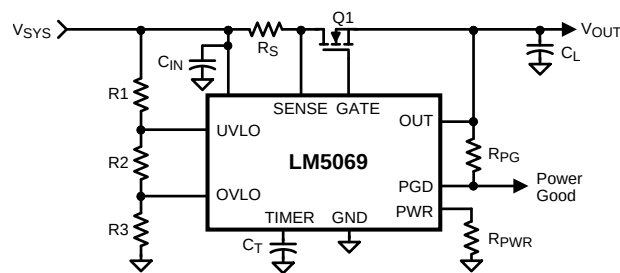
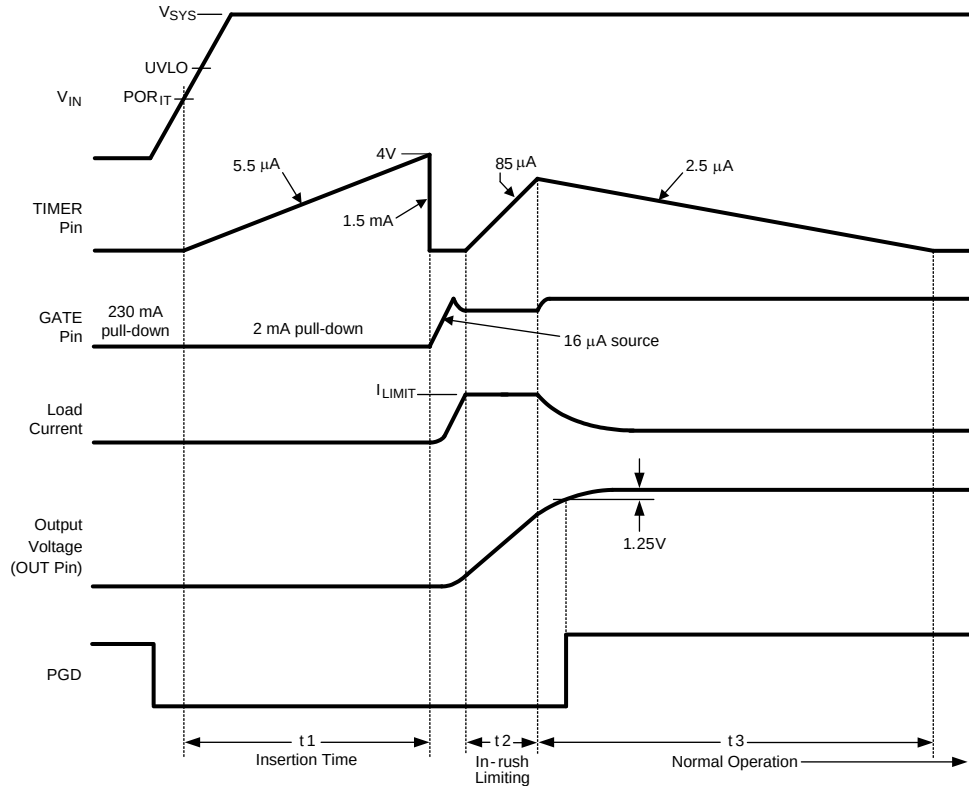

Figure 22. Basic Application Circuit
Figure 24. Power Up Sequence (Current Limit only)
The VIN operating range of the LM5069 is +9V to +80V, with a transient capability to +100V. Referring to the Block Diagram and Figure 22 and Figure 24, as the voltage at VIN initially increases, the external N-channel MOSFET (Q1) is held off by an internal 230 mA pull-down current at the GATE pin. The strong pull-down current at the GATE pin prevents an inadvertent turn-on as the MOSFET's gate-to-drain (Miller) capacitance is charged. Additionally, the TIMER pin is initially held at ground. When the VIN voltage reaches the POR_{IT} threshold (7.6V) the insertion time begins. During the insertion time, the capacitor at the TIMER pin (C_T) is charged by a 5.5 μA current source, and Q1 is held off by a 2 mA pull-down current at the GATE pin regardless of the VIN voltage. The insertion time delay allows ringing and transients at VIN to settle before Q1 can be enabled. The insertion time ends when the TIMER pin voltage reaches 4.0V. C_T is then quickly discharged by an internal 1.5 mA pull-down current. After the insertion time, the LM5069 control circuitry is enabled when VIN reaches the POR_{EN} threshold (8.4V). The GATE pin then switches on Q1 when V_{SYS} exceeds the UVLO threshold (UVLO pin $>2.5V$). If V_{SYS} is above the UVLO threshold at the end of the insertion time, Q1 switches on at that time. The GATE pin charge pump sources 16 μA to charge Q1's gate capacitance. The maximum gate-to-source voltage of Q1 is limited by an internal 12V zener diode.
As the voltage at the OUT pin increases, the LM5069 monitors the drain current and power dissipation of MOSFET Q1. In-rush current limiting and/or power limiting circuits actively control the current delivered to the load. During the in-rush limiting interval (t_2 in Figure 24) an internal 85 μA fault timer current source charges C_T . If Q1's power dissipation and the input current reduce below their respective limiting thresholds before the TIMER pin reaches 4.0V the 85 μA current source is switched off, and C_T is discharged by the internal 2.5 μA current sink (t_3 in Figure 24). The in-rush limiting interval is complete when the voltage at the OUT pin increases to within 1.25V of the input voltage (V_{SYS}), and the PGD pin switches high.
A charge pump provides internal bias voltage above the output voltage (OUT pin) to enhance the N-Channel MOSFET's gate. The gate-to-source voltage is limited by an internal 12V zener diode. During normal operating conditions (t_3 in Figure 24) the gate of Q1 is held charged by an internal 16 μA current source to approximately 12V above OUT. If the maximum V_{GS} rating of Q1 is less than 12V, a lower voltage external zener diode must be added between the GATE and OUT pins. The external zener diode must have a forward current rating of at least 250 mA.
During the insertion time (t_1 in Figure 24) the GATE pin is held low by a 2 mA pull-down current. This maintains Q1 in the off-state until the end of t_1 , regardless of the voltage at V_{IN} or $UVLO$.
Following the insertion time, during t_2 in Figure 24, the gate voltage of Q1 is modulated to keep the current or power dissipation level from exceeding the programmed levels. While in the current or power limiting mode the TIMER pin capacitor is charging. If the current and power limiting cease before the TIMER pin reaches 4V the TIMER pin capacitor then discharges, and the circuit enters normal operation.
The series pass MOSFET (Q1) is enabled when the input supply voltage (V_{SYS}) is within the operating range defined by the programmable under-voltage lockout (UVLO) and over-voltage lock-out (OVLO) levels. Typically the UVLO level at V_{SYS} is set with a resistor divider (R1-R3) as shown in Figure 22. When V_{SYS} is below the UVLO level, the internal 21 μA current source at UVLO is enabled, the current source at OVLO is off, and Q1 is held off by the 2 mA pull-down current at the GATE pin. As V_{SYS} is increased, raising the voltage at UVLO above 2.5V, the 21 μA current source at UVLO is switched off, increasing the voltage at UVLO, providing hysteresis for this threshold. With the UVLO pin above 2.5V, Q1 is switched on by the 16 μA current source at the GATE pin if the insertion time delay has expired (Figure 24). See the Applications Section for a procedure to calculate the values of the threshold setting resistors (R1-R3). The minimum possible UVLO level at V_{SYS} can be set by connecting the UVLO pin to VIN. In this case Q1 is enabled when the VIN voltage reaches the POR_{EN} threshold.
(REFER TO Figure 22)
A) Insertion Delay - Upon applying the system voltage (V_{SYS}) to the circuit, the external MOSFET (Q1) is held off during the insertion time (t_1 in Figure 24) to allow ringing and transients at V_{SYS} to settle. Since each backplane's response to a circuit card plug-in is unique, the worst case settling time must be determined for each application. The insertion time starts when V_{IN} reaches the POR_{IT} threshold, at which time the internal $5.5\text{ }\mu\text{A}$ current source charges C_T from 0V to 4.0V. The required capacitor value is calculated from: